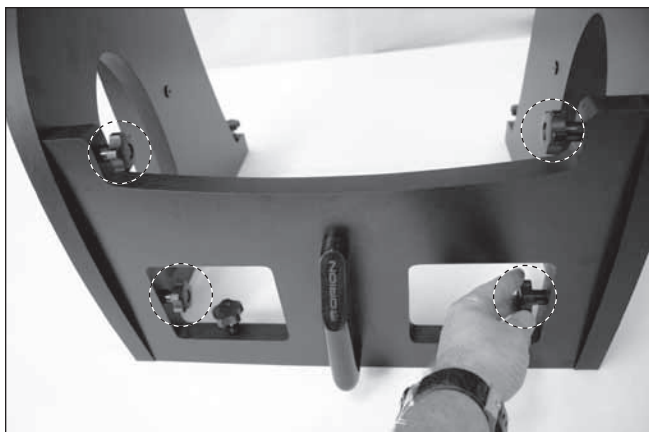

Figure 46. Loosen the four captive connecting bolts that attach the side panels to the front panel.
3. To remove the side panels from the front panel, loosen the four captive connecting bolts that attach the front panel to the side panels (**Figure 46**). You will have to turn the hand knobs about seven full turns or so to unthread the bolts completely from their receptacles in the side panels.